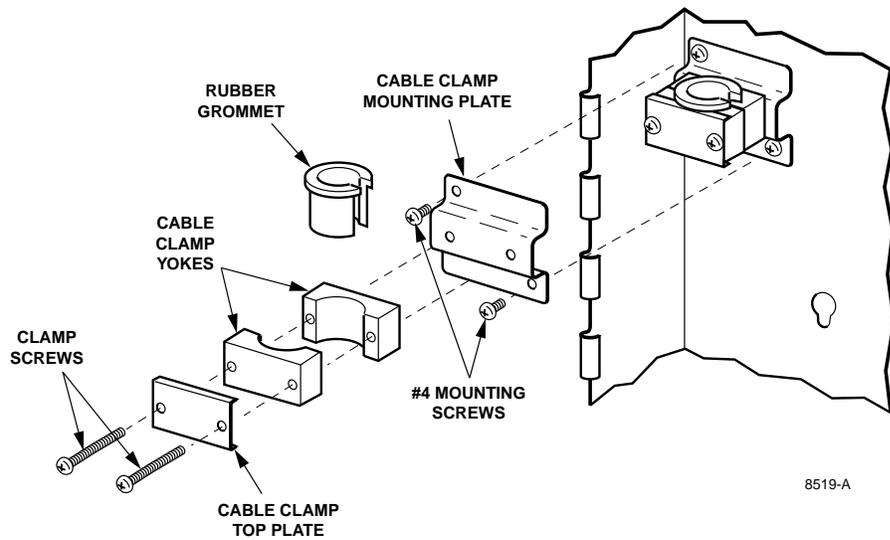
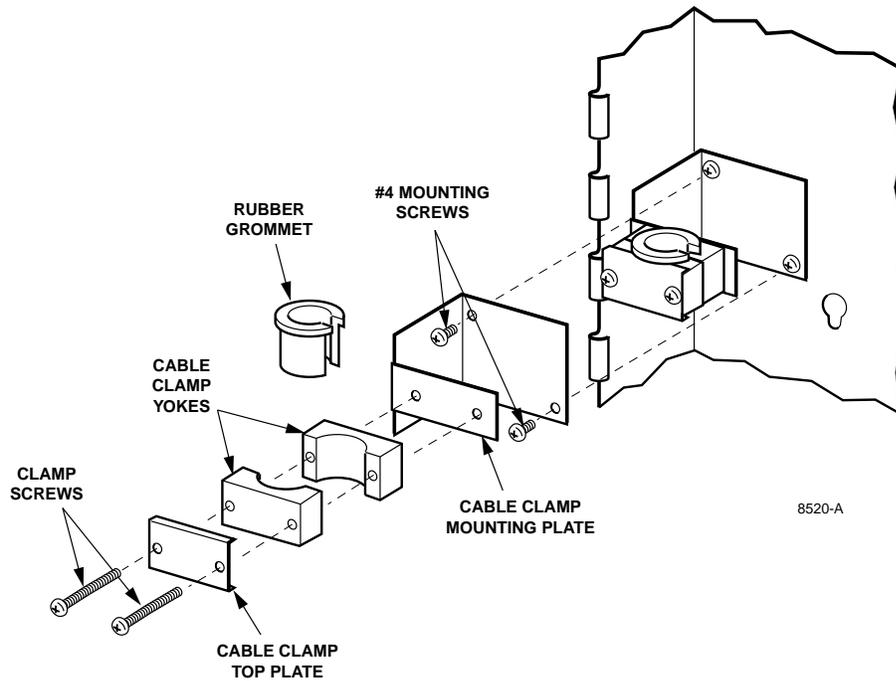

Figure 7. Lower Cable Clamp Assembly Details
Figure 8. Upper Cable Clamp Assembly Details
2.07 The cable clamp kits (Figures 7 and 8) are installed on-site to separate the incoming OSP cable fibers for easier management within the wall box. Each cable clamp kit includes a mounting plate (upper or lower; i.e., high or low), a clamp cover plate, two rubber yokes, a set of five rubber grommets, and associated hardware (two mounting screws and two clamp screws).
1. Mount the selected cable clamp mounting plate (either high or low) using two #4 mounting screws into the rear panel of the wall box per Figure 7 or Figure 8.
3. Assemble the cable clamp components as shown in Figure 7 or 8: secure the cable and grommet (if used) between the two cable clamp yokes, then place the clamp plate over the outer yoke and secure the yokes and cable to the mounting plate with two long screws. Be sure the cable sheath extends approximately 0.75 inch (1.9 cm) beyond the cable clamp.